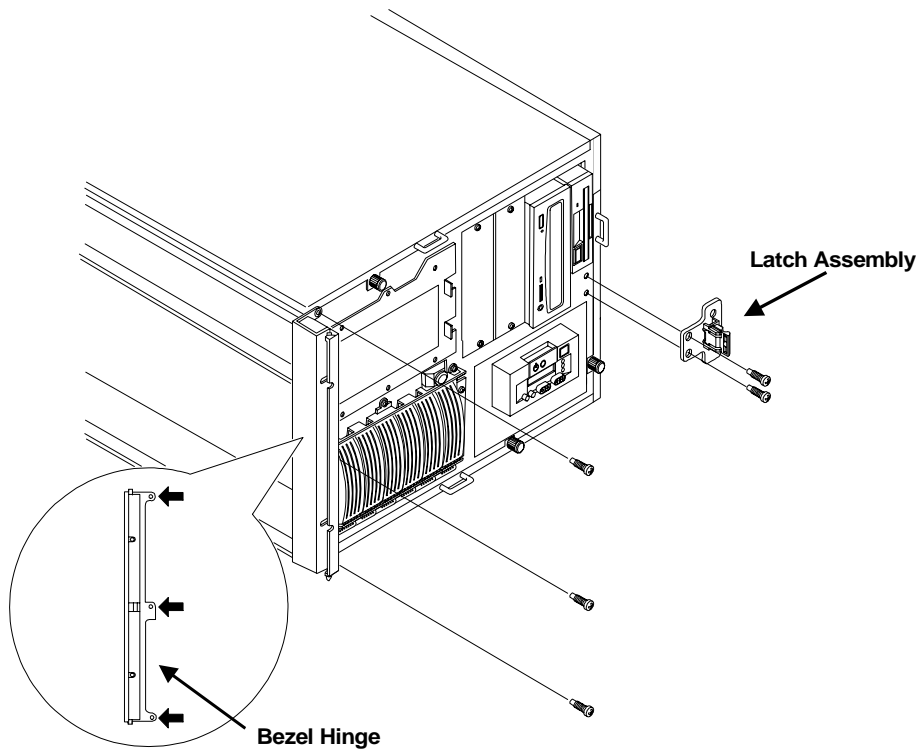

Figure 3-6. Mounting Hardware for Front Bezel for HP Rack
- ◇ **For the HP rack**, the bezel mounting hardware is the bezel hinge and latch assembly. The bezel hinge is a long plastic part with five screw holes, two on the left and three on the right, as shown in Figure 3-6. The latch assembly is a small metal part with four screw holes and a black plastic latch mounted on it, as shown in Figure 3-6.